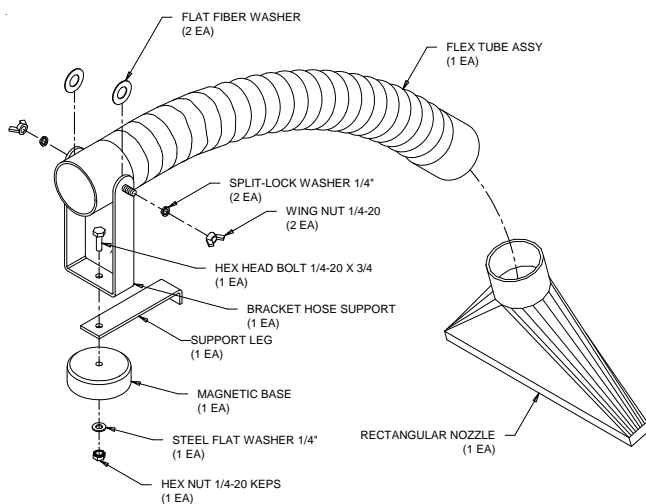

Figure 2
- (1) Flexible Metal Hose/Magnetic Base Component Parts. (See Figure 2 For Individual Parts Included)
6. Assemble the flexible metal hose and nozzle per Figure 2.